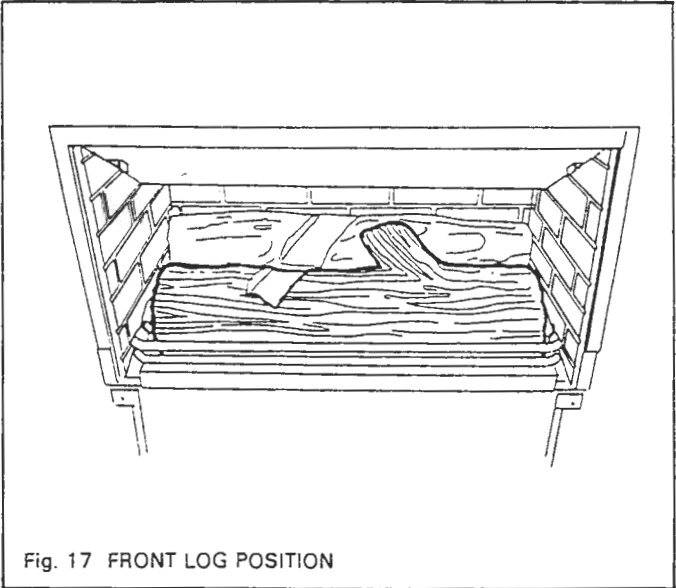

Fig. 17 FRONT LOG POSITION
6.4 Place the front log in the retaining brackets towards the front of the firebox (fig. 17).